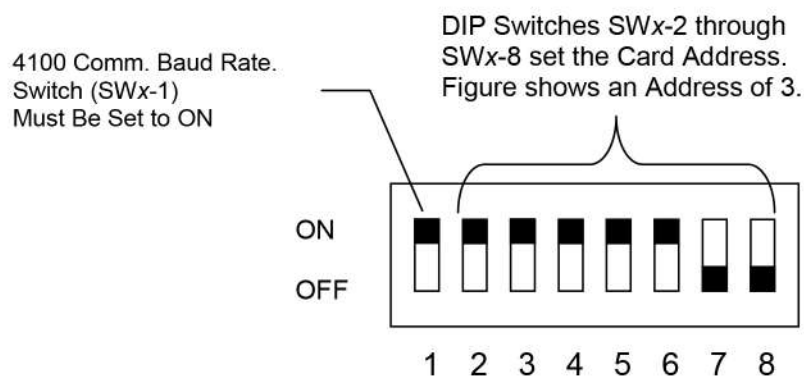

Figure 36: DIP switch SWx
Addressable cards include a bank of eight DIP switches. From left to right (Figure 36) these switches are designated as SWx-1 through SWx-8. The function of these switches is as follows:
- **SWx-2 through SWx-8.** These switches set the card's address within the 4010ES FACU. Refer to Figure 36 for a complete list of the switch settings for all of the possible card addresses.